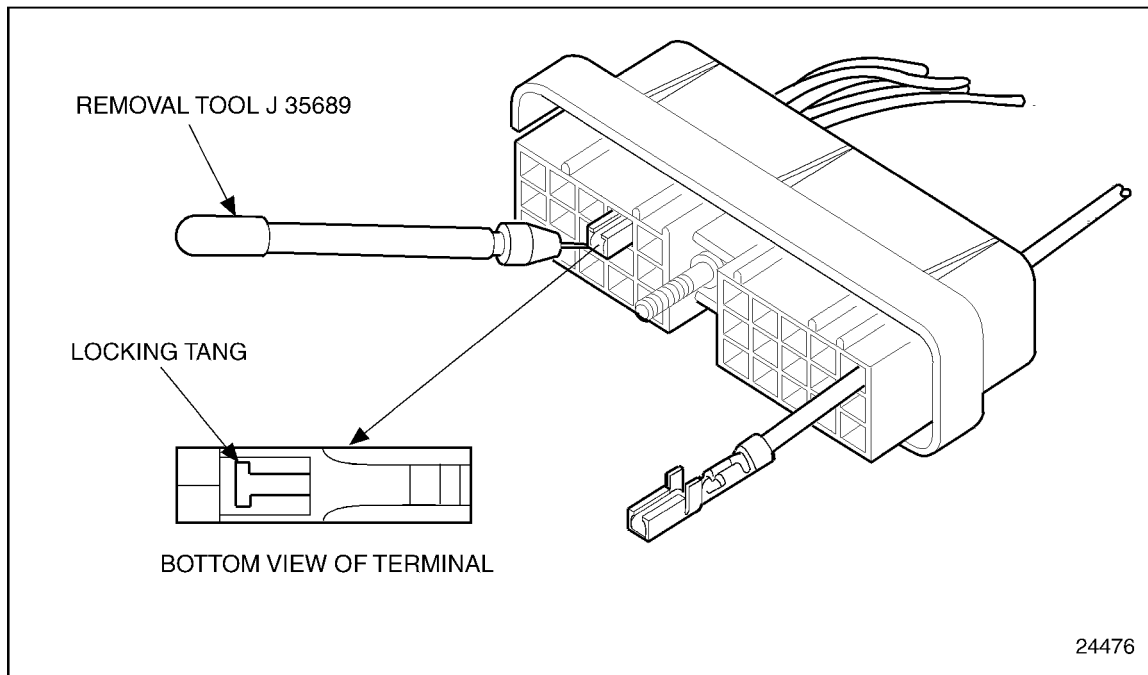

Figure 8-6 Terminal Removal
1. Insert the removal tool into the cavity of the connector, placing the tip of the tool between the locking tang of the terminal and the wall of the cavity. See Figure 8-6.